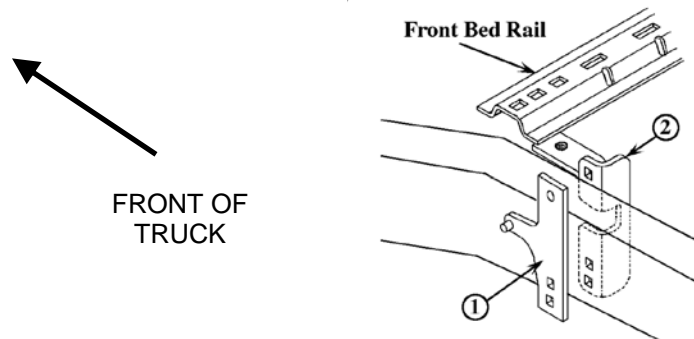

Figure 4
4. Position the left and right front outer brackets #1 and #3 against their respective truck frames so that the pin in each bracket aligns with the existing hole in the side of the vehicle frame. See Figure 4.